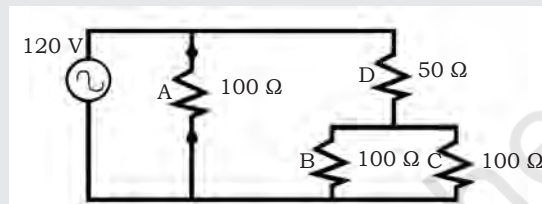

Fig. 1.41
D. Find the electrical quantities in the circuit shown in Fig. 1.41.